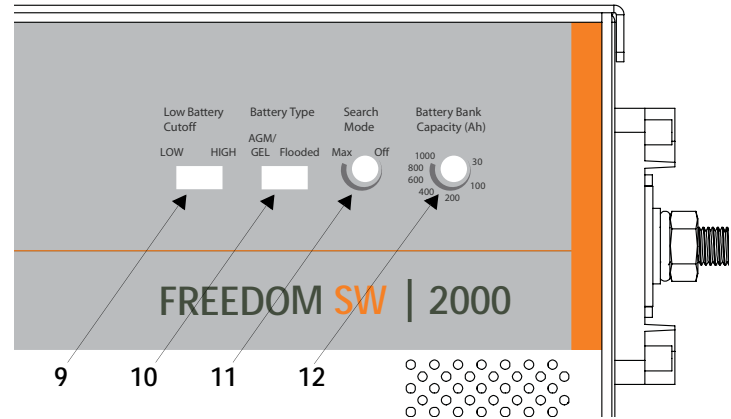

Figure 4 Front Panel User and Service Control Interfaces
See Figure 4 on page 8 for an illustration of the Service Control Interface.
2. Ensure the Battery Type Selector switch is set to flooded (see Figure 4 on page 8 for reference).